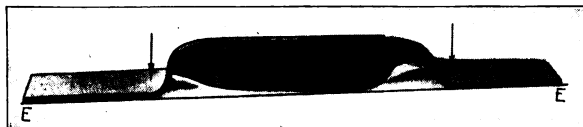

FIG. 34. CENTER HAMMERED TO ONE SIDE; ENDS HAMMERED DOWN AT ARROWS.
4. You will note that the twists are now thru the center of the stock. The central part, Fig. 34, must all be hammered over to one side, as to the line E-E; and the ends hammered down as shown by the arrows. Fig. 35 shows the method of hammering down one side of the center. The outside ends are hammered down in the same manner.